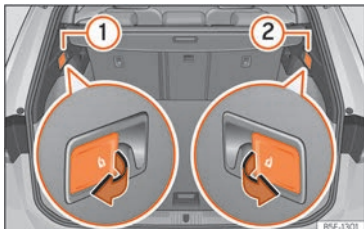

Fig. 122 In the luggage compartment: levers to unlock the rear backrest.
- Pull the remote release lever of the left part » Fig. 122 ① or right part ② of the backrest